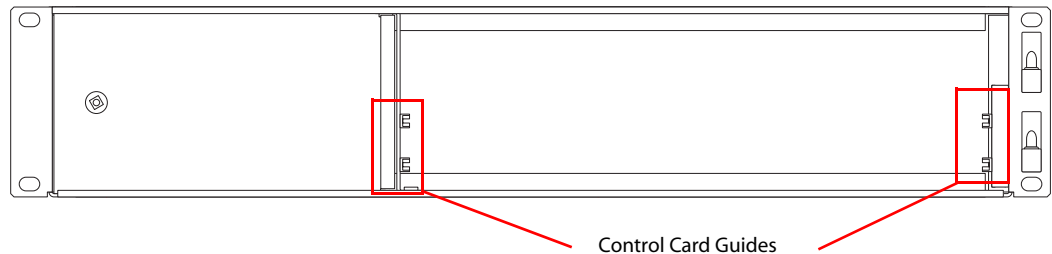

Figure 2-1. Front of EC9535 with Door Removed
- 2 There are two control card guides, as shown in Figure 2-1. Insert each control card horizontally into each set of guides. The cards should slide in easily; do not force them.
- 1 Facing the front of the EC9535, open the door and locate the primary control card slot. The primary control card is located on top (above) and the secondary control card is located below. (See Figure 2-1 on page 11.)